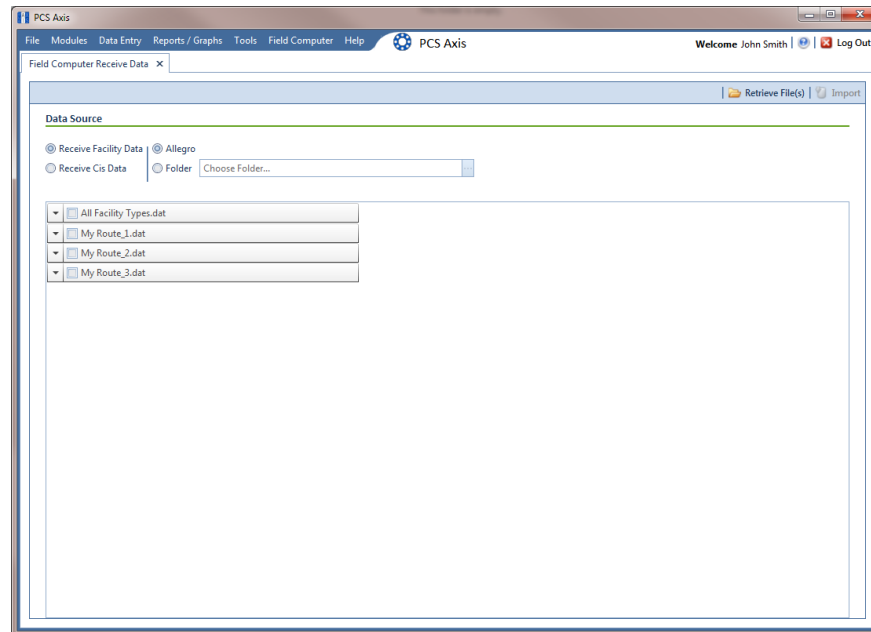

Figure 13-16. Field Computer Receive
- 2 Click **Field Computer** > **Receive** to open the *Field Computer Receive Data* window (Figure 13-16).